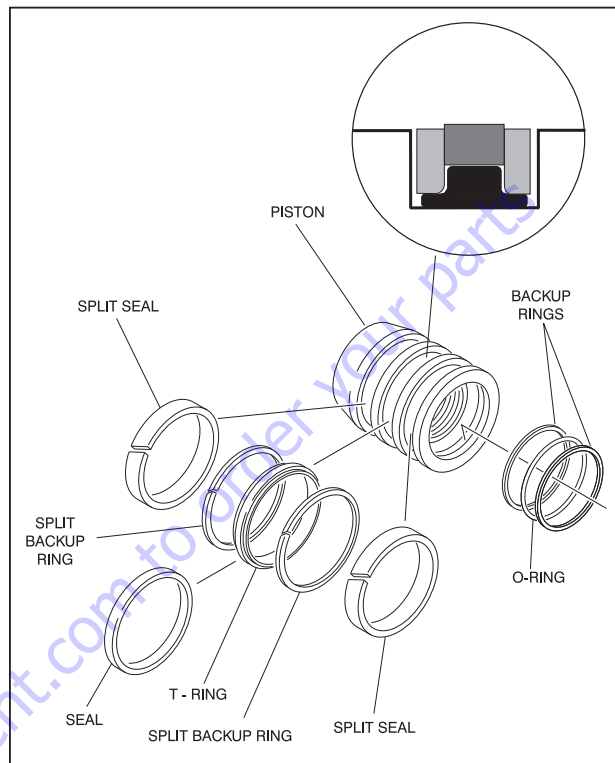

Figure 5-52. Piston Seal Kit Installation
NOTE: The backup rings for the solid seal have a radius on one side. This side faces the solid seal. (See magnified insert in Figure 5-52.) The split of seals and backup rings are to be positioned so as not to be in alignment with each other.
16. Place new guide locks and seals in the applicable outside diameter grooves of the cylinder piston. (See Figure 5-52., Piston Seal Kit Installation)